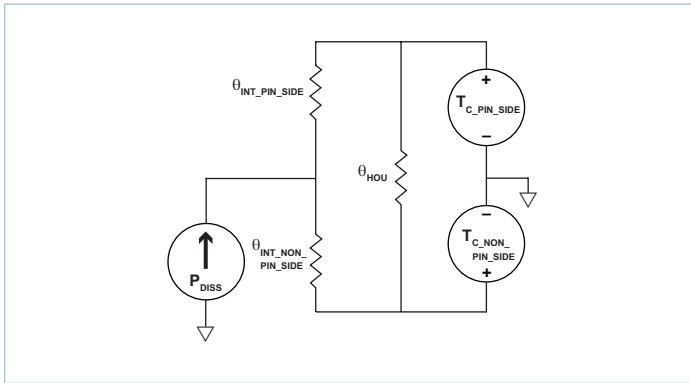
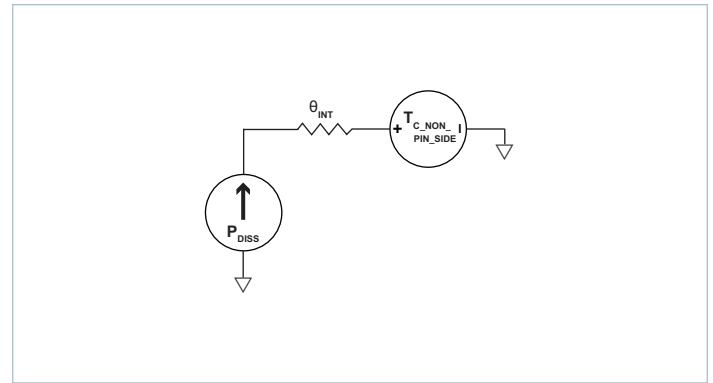

Figure 22 — Double-sided cooling thermal model
Figure 23 — Single-sided cooling thermal model
The VIA package provides effective conduction cooling from either of the two module surfaces. Heat may be removed from the pin-side surface, the non-pin-side surface or both. The extent to which these two surfaces are cooled is a key component for determining the maximum power that can be processed by a BCM, as can be seen from the specified thermal operating area in Figure 1. Since the BCM has a maximum internal temperature rating, it is necessary to estimate this temperature based on a system-level thermal solution. For this purpose, it is helpful to simplify the thermal solution into a roughly equivalent circuit where power dissipation is modeled as a current source, isothermal surface temperatures are represented as voltage sources and the thermal resistances are represented as resistors. Figure 22 shows the “thermal circuit” for the BCM in a VIA package.
- Single-side cooling: the model of Figure 22 can be simplified by calculating the parallel resistor network and using one simple thermal resistance number and the internal power dissipation curves; an example for non-pin side-cooling only is shown in Figure 23.